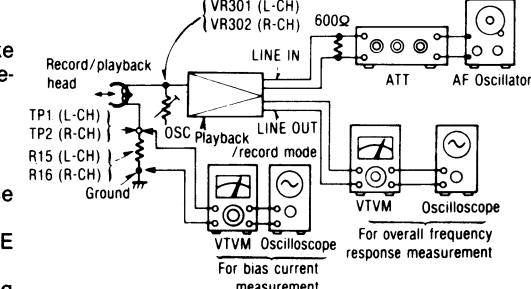

Fig. 10
- Make connections as shown in fig. 10.